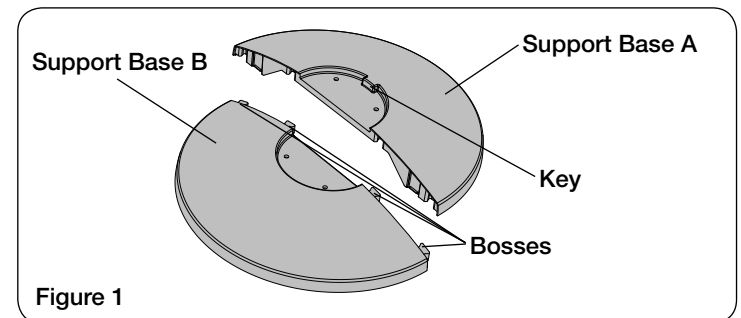

Figure 1
2. Assemble the Support Base Halves by interlocking the Bosses on Support Base A into the Boss Holes on Support Base B. (Figure 1)